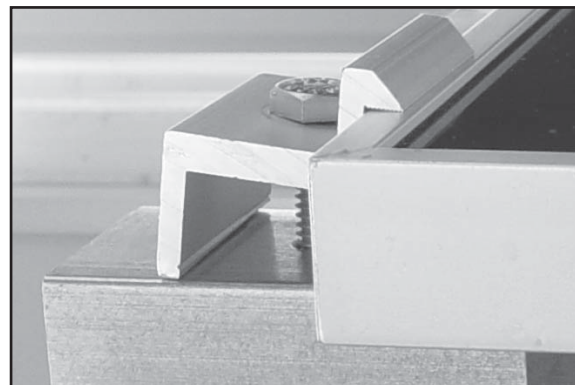

Figure 3. Lean the SolarMount end clamp slightly into the module. Avoid perpendicular orientation and never allow the clamp to lean away from the module.
**A SolarMount end clamp should lean slightly into the module (Fig. 3).**